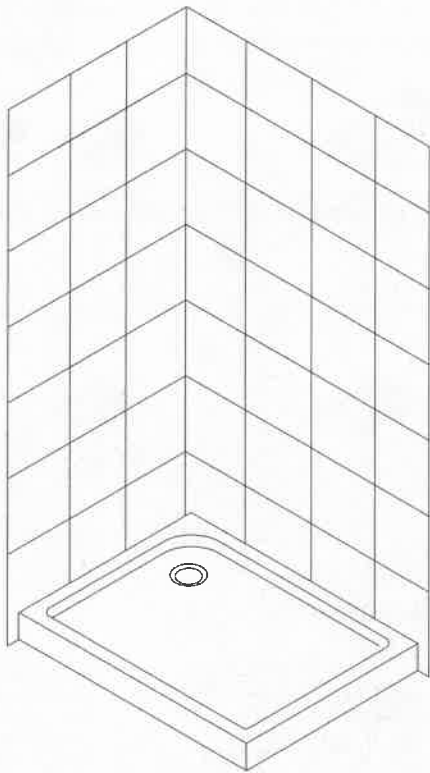

Fig1
1. Install the shower tray or stone base according to the customer's actual condition. See Fig 1 for details.